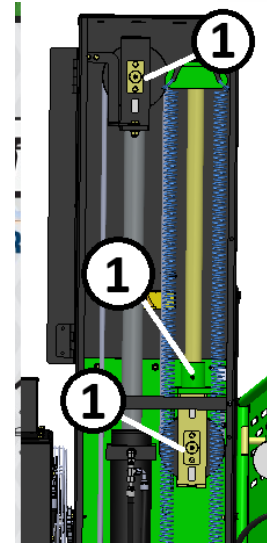

Figure 117. Anchor Position Control Greasing
Open the access panel to the anchor position control. Locate three (3) grease fittings at the tensioner and pulley on the cylinder. See Figure 117.